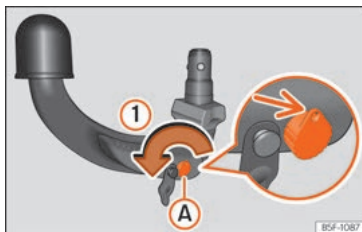

Fig. 292 Step 1.
- Turn the key in the direction of arrow ① until the part of the key with the holes reaches the top position » Fig. 292 (arrow).